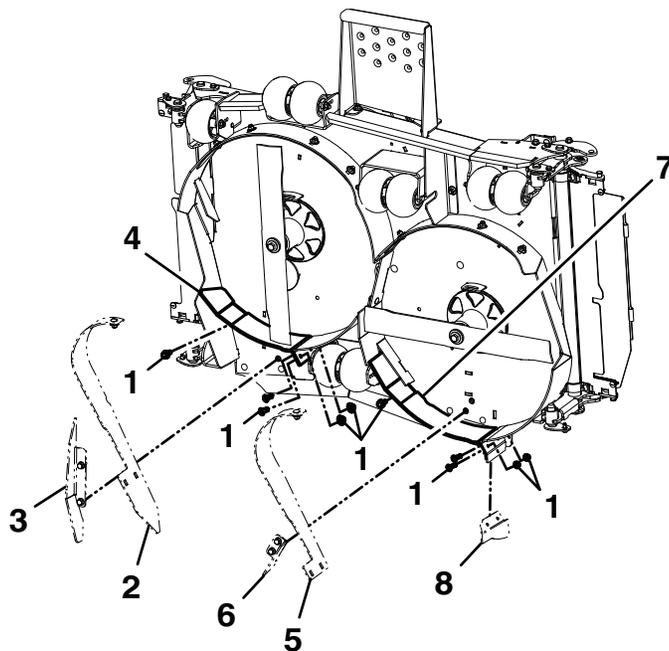

Figure 6
8. Remove and retain the two center dogleg baffles, breaker baffle, discharge fin, discharge guard, and all mounting hardware (see Figure 6). Install the RH and LH center block baffles using the hardware retained; some hardware is installed into threaded inserts. Place remaining unused hardware back in the original mounting locations.